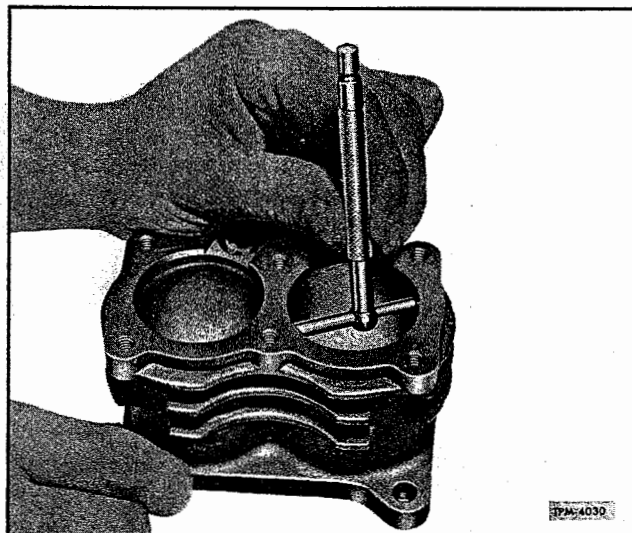

Figure 32—Measuring Cylinder Bore Diameter
7. Cylinder Block (Fig. 32). Use telescoping gauge to check bores for out-of-round and taper. Bores which are scored or out-of-round more than 0.002" or tapered more than 0.003" must be re-bored, honed, or ground oversize. Pistons and rings 0.010", 0.020", and 0.030" oversize are available. Cylinder bores must be smooth, straight and round and must be finished with a 500 (or finer) grit hone. The clearance between piston and cylinder wall must not be less than 0.002" or more than 0.004". Replace cylinder block if cracked or damaged.